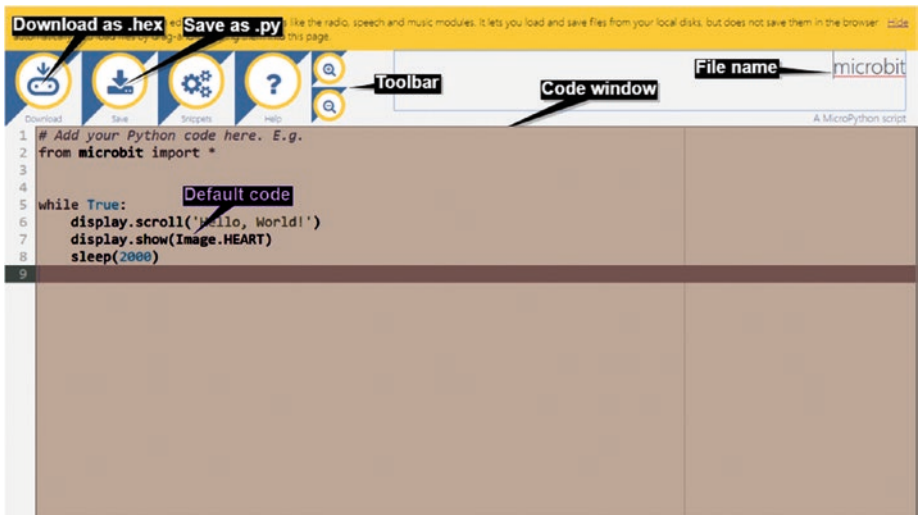

Figure 1-22. Online Python editor
2. Open your favorite web browser and access the online Python editor at <http://python.microbit.org/editor.html#> (see Figure 1-22).